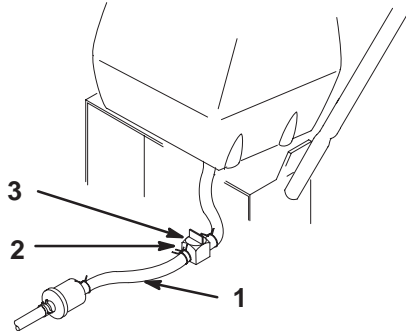

Figure 34
2. Close fuel shut-off valve (Fig. 34).
3. Squeeze the ends of the hose clamp together and slide it away from valve (Fig. 34).
4. Pull the fuel line off the valve (Fig. 34). Open fuel shut-off valve and allow gasoline to drain into a gas can or drain pan.